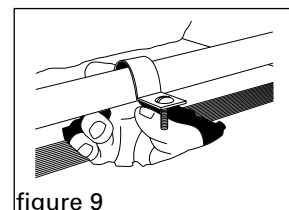

figure 9
6. Snap the bracket over the outer tube and center it over the hole with the screws facing downward (figure 9).